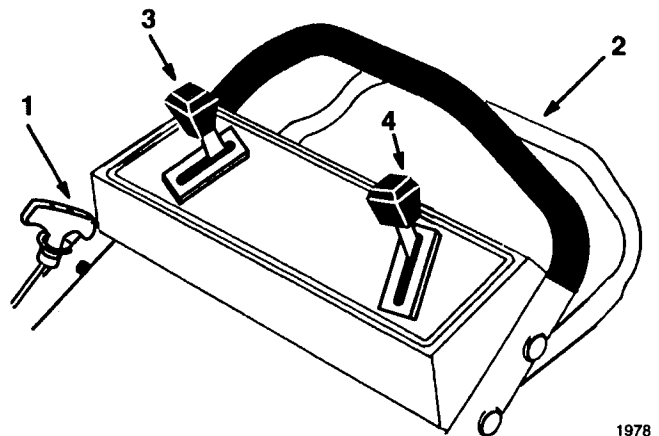

Figure 2
1. CONTROLS—Traction control, throttle, engine kill control bar and fingertip starter are on the handle (Fig. 2).